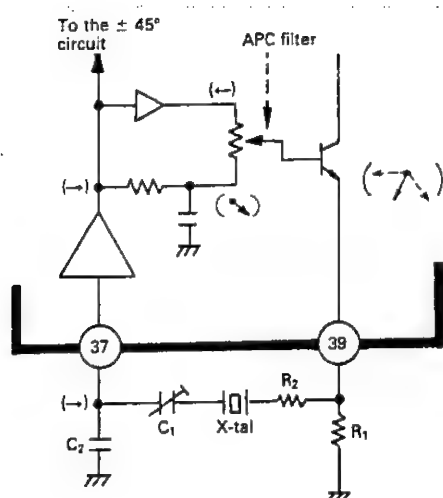

Figure 35.
As shown in Fig. 35, the VCO circuit is composed of the amplifier and phase composition circuit, both located between pin ②7 and pin ③9, and the externally connected